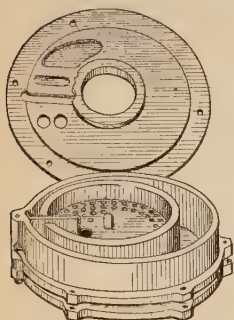
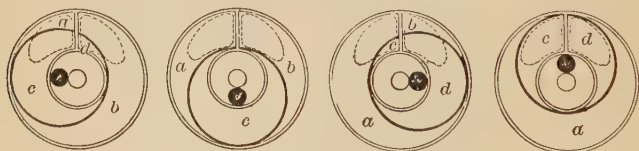

FIG. 70. — Water meter.
FIG. 71. — Diagrams to show operation of water meter.
77. Water meter. It is common now to measure the quantity of water which is used by each house. This is done by an instrument called a water-meter. There are several types of these meters; one of the simplest is shown in figure 70, and its action is shown in the four diagrams in figure 71. The water enters through the left-hand kidney-shaped opening, shown by dotted lines, and leaves through the similar opening at the right. The moving part, shown by the heavy line, has a hub (the black circle) that travels around in the little circular track provided for it, the moving part meanwhile oscillating to and fro without turning completely around. This makes the various annular spaces enlarge as long as they are in connection with the inlet (watch,